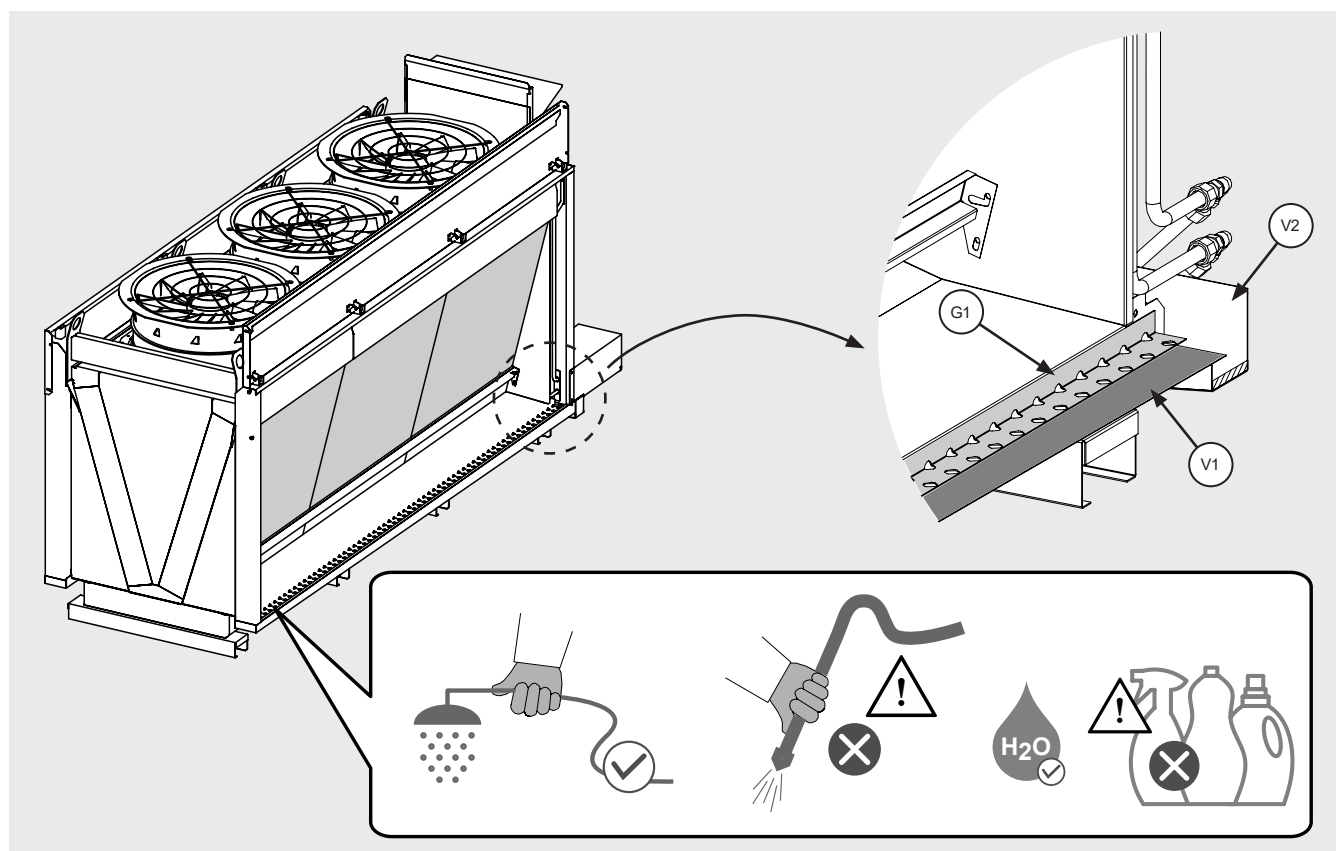

Figure 26
12.14.3 The model is equipped with 2 internal water collection tanks (V1) located under the two rows of adiabatic side panels. See Figure 26.